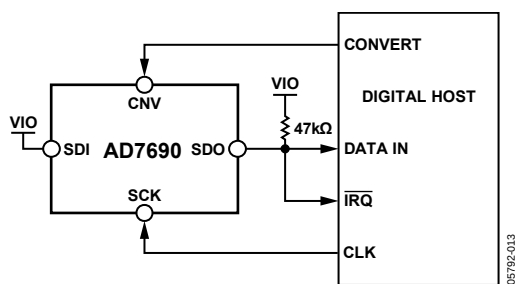
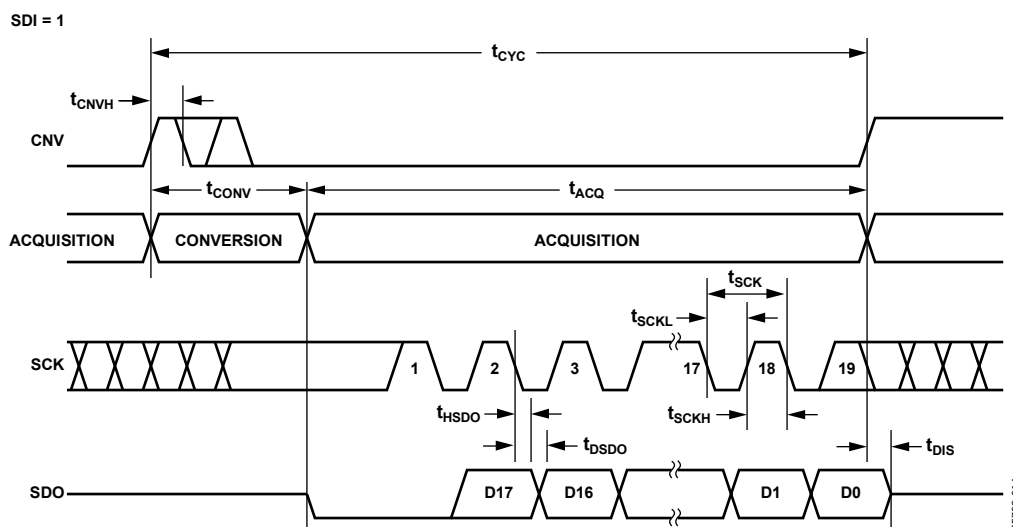

Figure 36. 3-Wire $\overline{\text{CS}}$ Mode with Busy Indicator Connection Diagram (SDI High)
Figure 37. 3-Wire $\overline{\text{CS}}$ Mode with Busy Indicator Serial Interface Timing (SDI High)
- In $\overline{CS}$ mode if CNV or SDI is low when the ADC conversion ends (see Figure 37 and Figure 41).
The connection diagram is shown in Figure 36, and the corresponding timing is given in Figure 37.